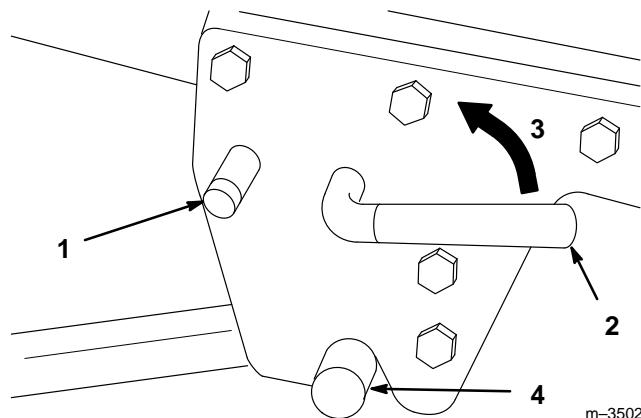

Figure 12
- Open the latches on the mid Attach-A-Matic™. Install the larger bar at the other end of the jack shaft assembly to the mid Attach-A-Matic™. Then turn the lever of the Attach-A-Matic™ counterclockwise to lock the jack shaft assembly to the tractor (Fig. 12).